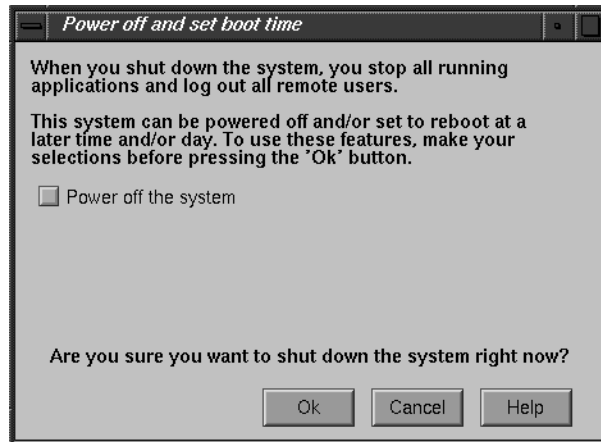
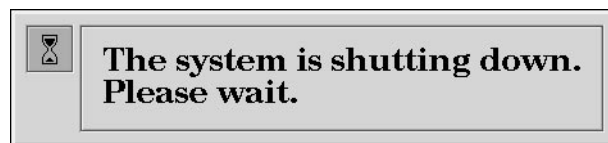

Figure 2-37 System Shutdown Caution Message
Figure 2-38 System Shutdown Notifier
After a few seconds you see the notifier shown in Figure 2-37. At this point you can either power off the system, or shut down the system and get the System Maintenance Menu.
- To power off the system, click *Power Off the System* and then click *OK*. The screen clears and you see the notifier shown in Figure 2-38. After a few seconds, the system powers off.
- To shut down the system and get the System Maintenance Menu, click *OK* at the notifier shown in Figure 2-37. The screen clears and you see the notifier shown in Figure 2-38.